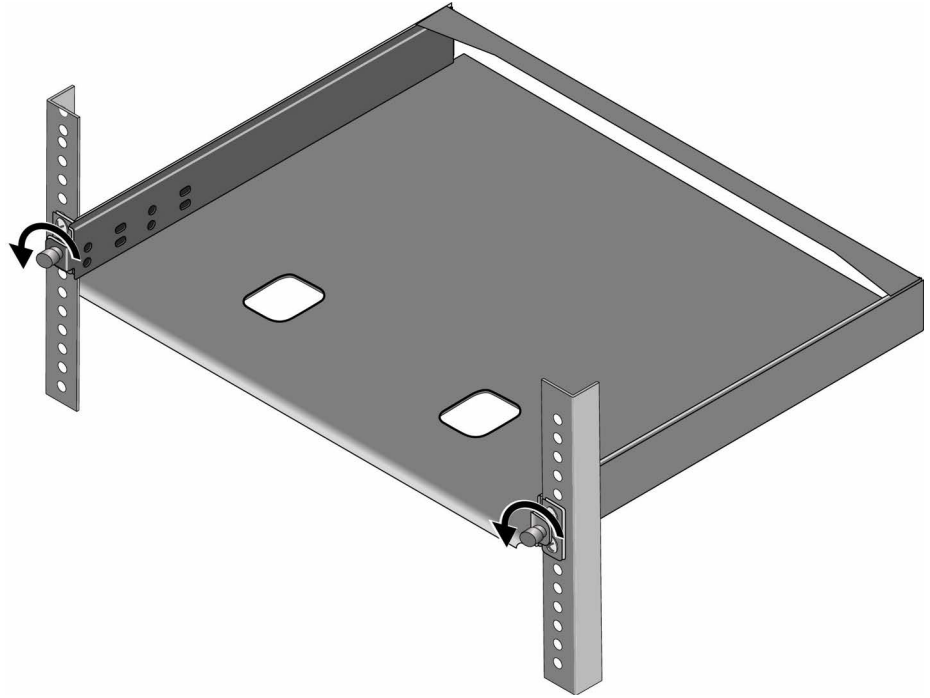

Figure 51. Loosening the Two Thumbscrews on the Front of the RKMT-J15 Tray
4. Loosen the two thumbscrews on the front of the tray. See Figure 51 on page 89.